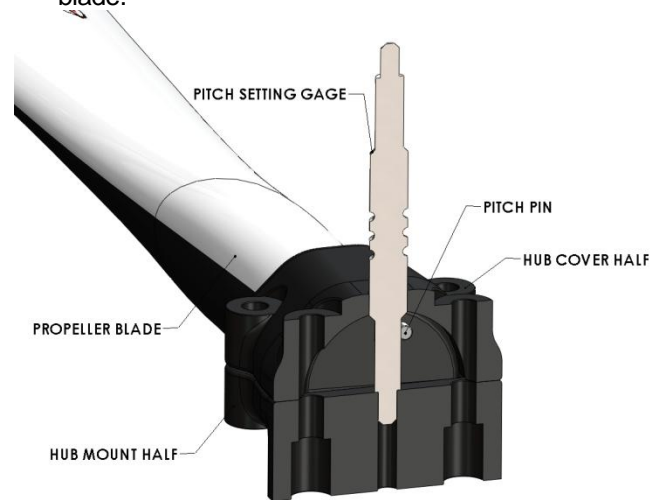

FIGURE 4. PITCH SETTING GAGE
6. Insert the pitch setting gage thru the clearance hole in the hub cover half and into the receiving hole in the hub mount half. See **Figure 4**. For aircraft with a maximum speed of 100 mph or less, use pitch setting gage #3 to start. For faster aircraft, use pitch setting gage #5 to start. The pitch setting # indicates relative
4. Insert the desired pitch setting gage thru the clearance hole in the hub cover half and into receiving hole in the hub mount half. See **Figure 4**.